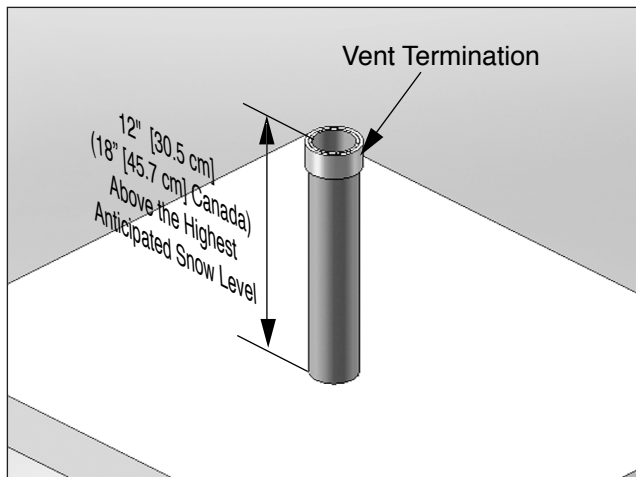

Fig. 15 - Category IV - Vertical Termination of Vent Pipe
3. The vent piping must terminate vertically with a coupling to accept the bird screen and must be located 12" [30.5 cm] (18" [45.7 cm] in Canada) above the highest anticipated snow level as shown in *Fig. 15 on page 24 below*.
3. Locate the vent pipe penetration to provide clearances as described in *Fig. 15 on page 24*.
3. The vent piping must terminate vertically with a coupling as shown in *Fig. 15 on page 24*.
**Do not extend the vent pipe above the roof beyond the dimensions shown in *Fig. 15 on page 24*. Extended exposure of the vent pipe could cause condensate to freeze and block the vent pipe, resulting in substantial property damage, serious injury, or death.**